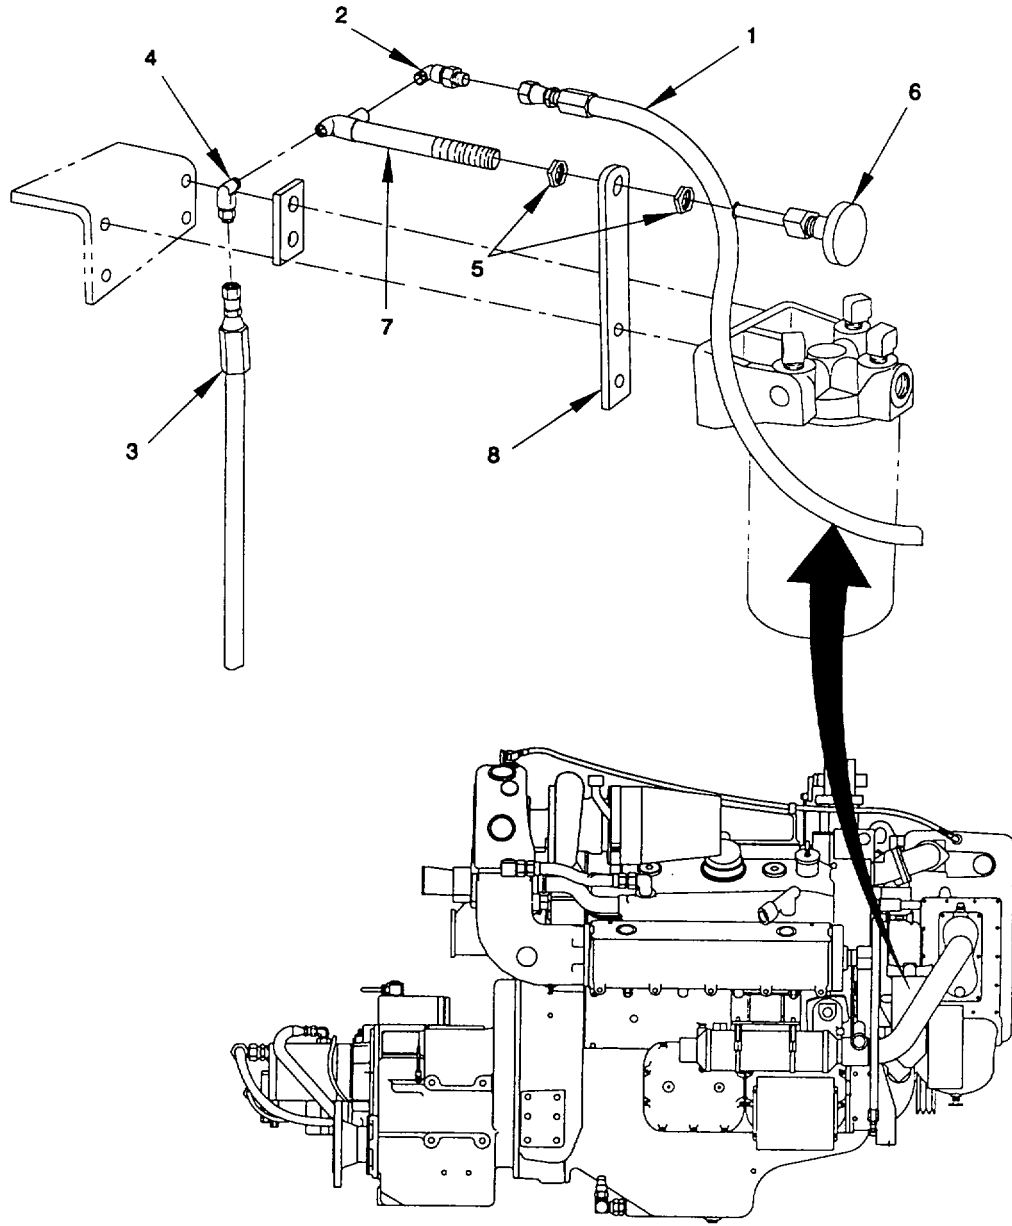

Figure 2-12. Fuel Priming Pump, Remove/Install
a. Remove. (figure 2-12)
- (1) Remove fuel line (1) from fitting (2) and fuel line (3) from fitting (4).
- (2) Remove fittings (2 and 4) from pump tube (7).
- (3) Loosen retaining nut on primer pump (6) and remove primer pump (6).
- (4) Loosen nuts (5) on pump tube (7) and remove outside nut (5) and pump tube (7) from bracket (8).
b. Install. (figure 2-12)
- (1) Position pump tube (7) through bracket (8). Secure with nuts (5).
- (2) Install primer pump (6) onto pump tube (7) and tighten retaining nut on primer pump (6).
- (3) Install fittings (2 and 4) on pump tube (7).
- (4) Reconnect fuel line (1) to fitting (2) and fuel line (3) to fitting (4).
- (5) Open fuel supply line.
- (6) Check for leaks after engine has been run.